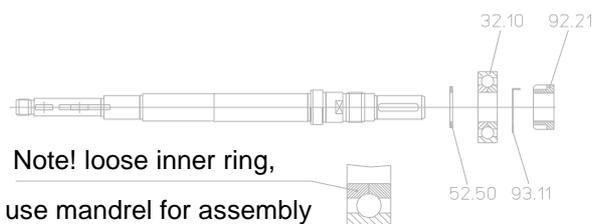

Fig. 7
15. Loosen shaft nut 92.21, remove lock washer 93.11 and withdraw bearing 32.10 and backing washer 52.50 (fig. 7).